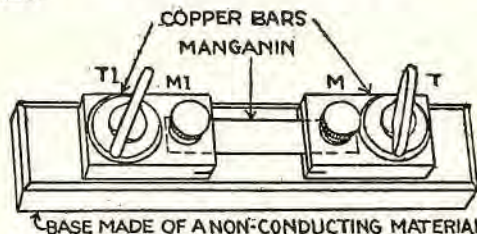

Fig. 14. A shunt used in connection with the Weston ammeter.
It is important to note that a "shunt" (Fig. 14) must be connected as shown in Fig. 13. The reason for this is explained farther on. A shunt is not used with the voltage tests.
Construction: A shunt consists of a special alloy, called manganin (Fig. 14), which, in this instance, is placed between two copper bars mounted on a wood or hard rubber base. The shunt is placed in series with the circuit being tested.
The meter is connected at each end of the manganin at (M) and (M1) (Fig. 14). Thus the manganin is shunted across the meter terminals, and this is why it is termed a "shunt." A shunt is used with the meter for ampere tests and not for voltmeter tests.